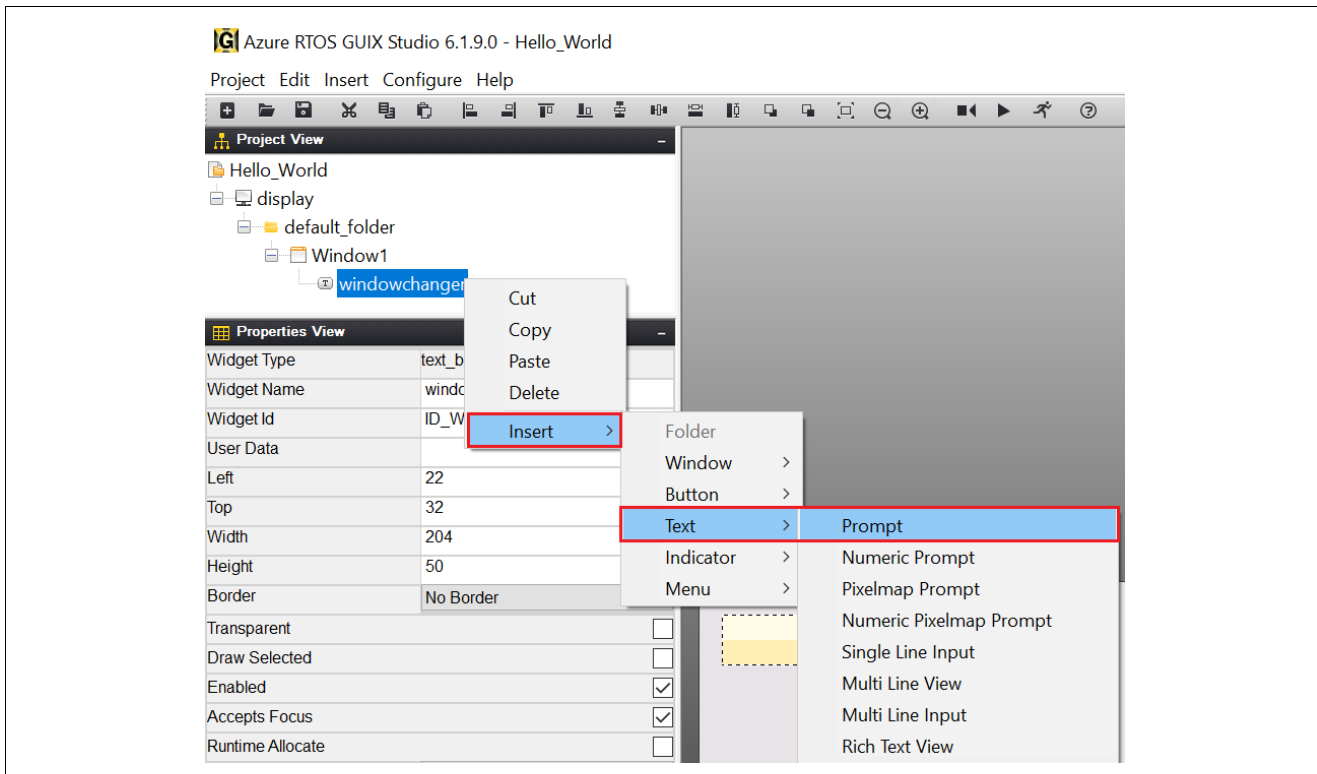

Figure 61. Insert Prompt
8. Right-click **windowchanger** to insert a **Prompt** and follow Figure 61.